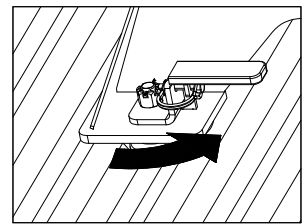

Figure C2:
2. **Prepare to adjust latch tension.** Once the base is in place, remove the cotter pins from each of the four castle nuts. Engage the cams with each attachment point by turning the latch handles back to their latched position, see Figure C2. If a handle will not turn easily, loosen the castle nut until the cam will freely turn and engage the attachment point.